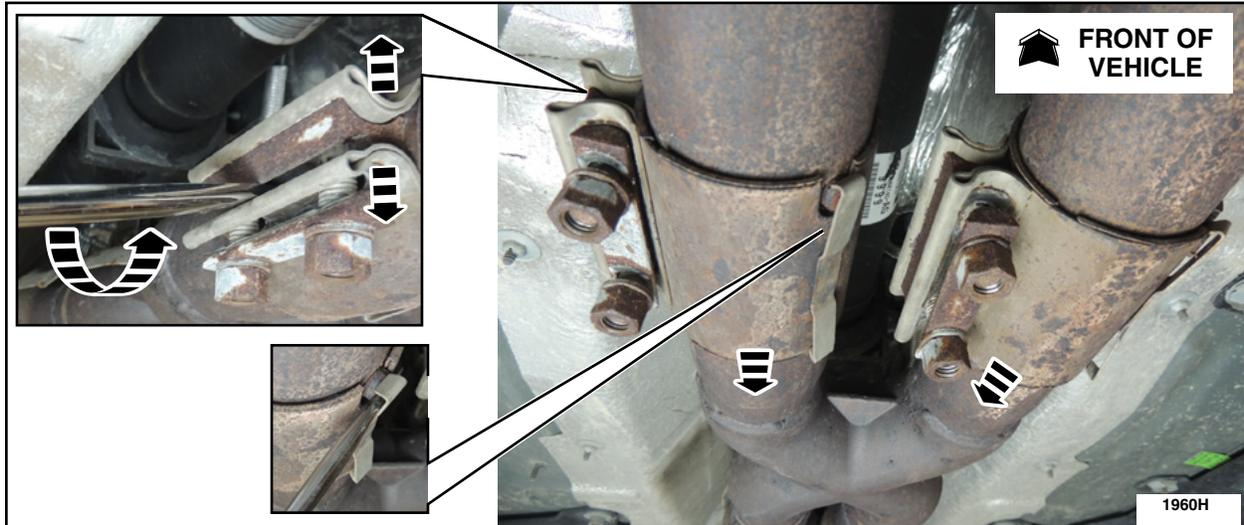

FIGURE 7
- Release the exhaust clamp safety retainers and position the exhaust clamps rearward allowing the exhaust to hang. If there is too much tension to position the exhaust clamps rearward, use a flat head screwdriver to spread open the exhaust clamp. See Figure 7.
26. Position the exhaust clamps forward to their correct locations and engage the safety retainers. See Figure 7.